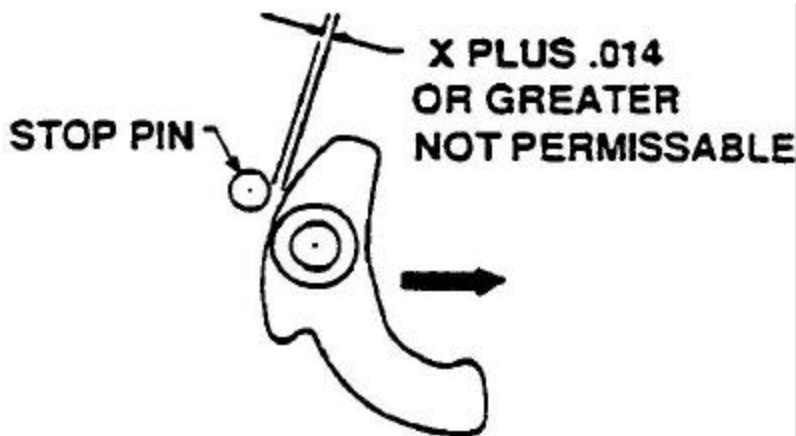

FIGURE 5. FLYWEIGHT TO AXLE WEAR CHECK
- 1.4.5 Remove the wire to relax the flyweight. Add .014 in. Feeler gauge to your determined "X" value. Attempt to pass "X plus .014" feeler gauges between flyweight and stop pin. See Figure 5. If gauges pass, remove and discard worn cam assembly. Replace the entire impulse coupling assembly or cam assembly with new snap ring impulse coupling or snap ring cam assembly as specified in paragraph 2. If gauges do not pass, coupling may be returned to service or replaced with new snap ring impulse coupling or snap ring cam assembly as specified in Paragraph 2.